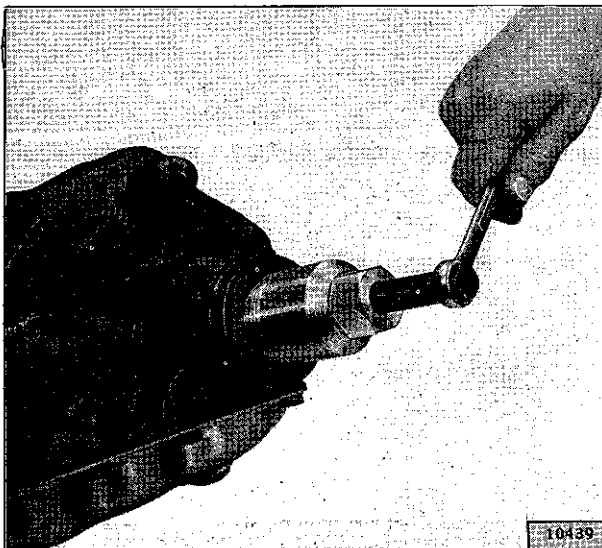
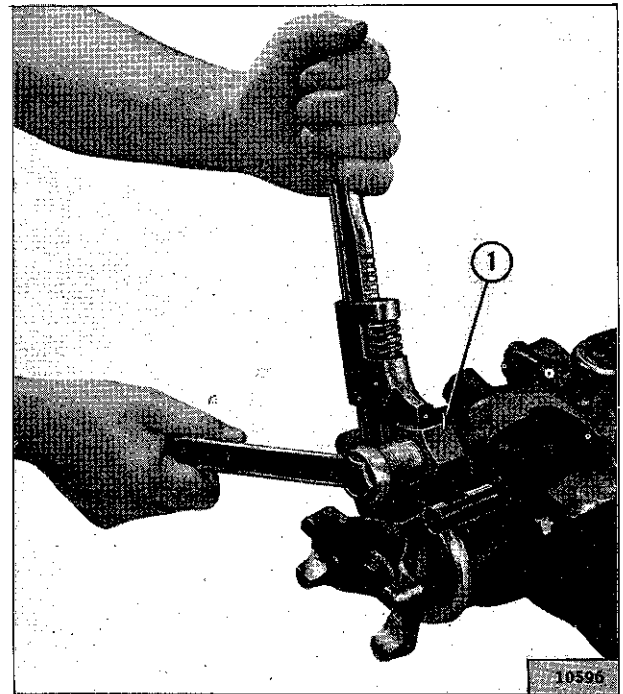

FIG. 227—OUTPUT SHAFT OIL SEAL PULLER
FIG. 228—SHIFT ROD OIL SEAL PULLER
shown in Fig. 227. Remove the shift rod oil seals with Tool No. W-176 as shown in Fig. 228.
- b. Remove the oil seal with a Tool W-251 as shown in Fig. 227.